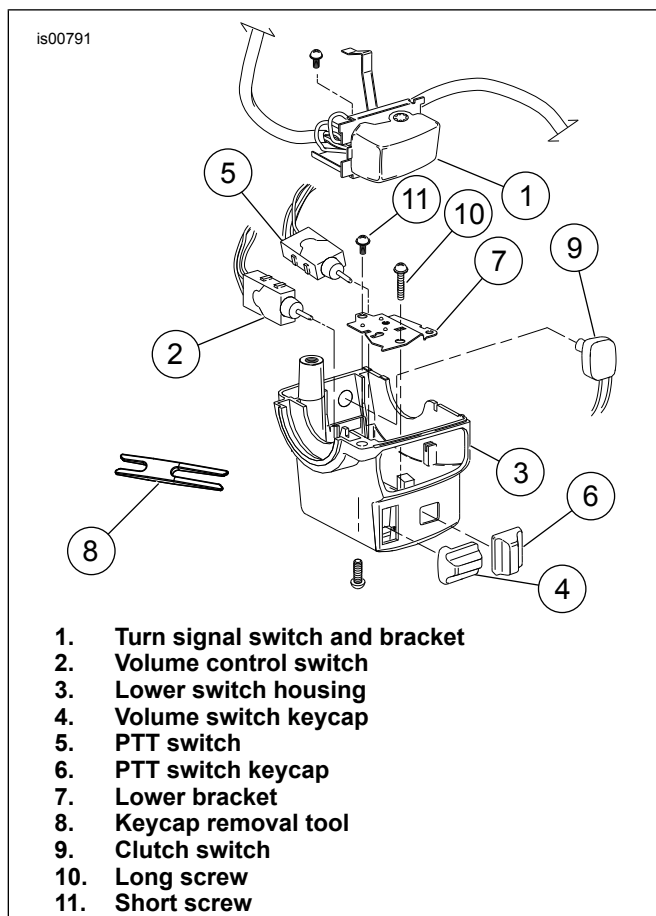

Figure 8. Models with Radio and CB - Left Handlebar Lower Switch Housing Assembly
1. See Figure 8. Carefully cut the cable strap holding the wire conduit to the turn signal switch bracket (1).
2. Remove the screw holding upper bracket from the housing (3).
6. See Figure 8. Remove two screws holding lower bracket (7) to boss in housing. Pull bracket from switch housing.
7. Mark or note the positions (top, right, left) of the radio (2) and/or PTT (5) switches and remove the switch assemblies.
1. **For Ultra and Road Glide models:** See Figure 8. Position CB PTT switch (5) into chrome lower switch cavity so that it is in a horizontal position (light green wire toward clutch bracket). Properly installed, the switch is captured by blocks cast into lower housing (3).
2. Place radio volume control switch (2) into chrome lower switch housing cavity so it is on edge, in a vertical position. The switch is captured by blocks cast into the lower housing when properly installed. Verify that switch shaft is aligned for proper keycap operation.
3. Place lower bracket (7) into housing (weld nut side down). On Ultra and Road Glide models, arrange the bracket so that lower step is positioned over PTT Switch (horizontally oriented). Verify that slots in upper step of bracket engage two tabs on the switch body.
6. Position clutch switch (9) in same location and orientation as removed earlier.